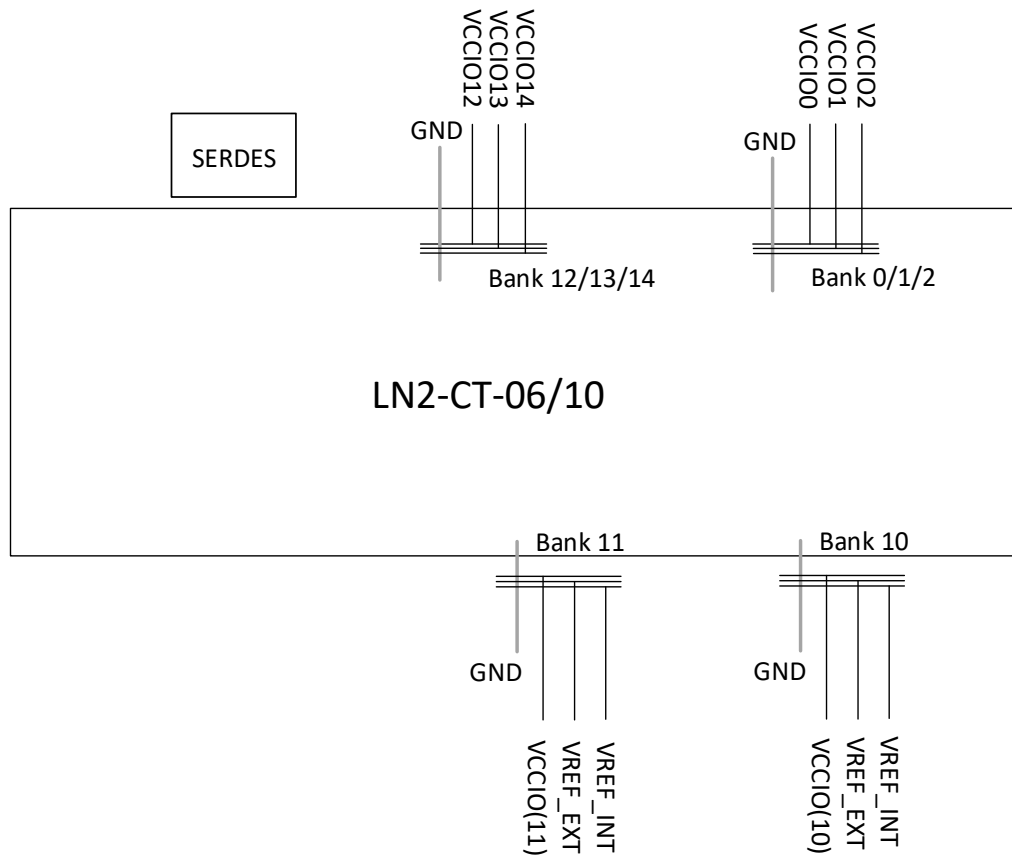
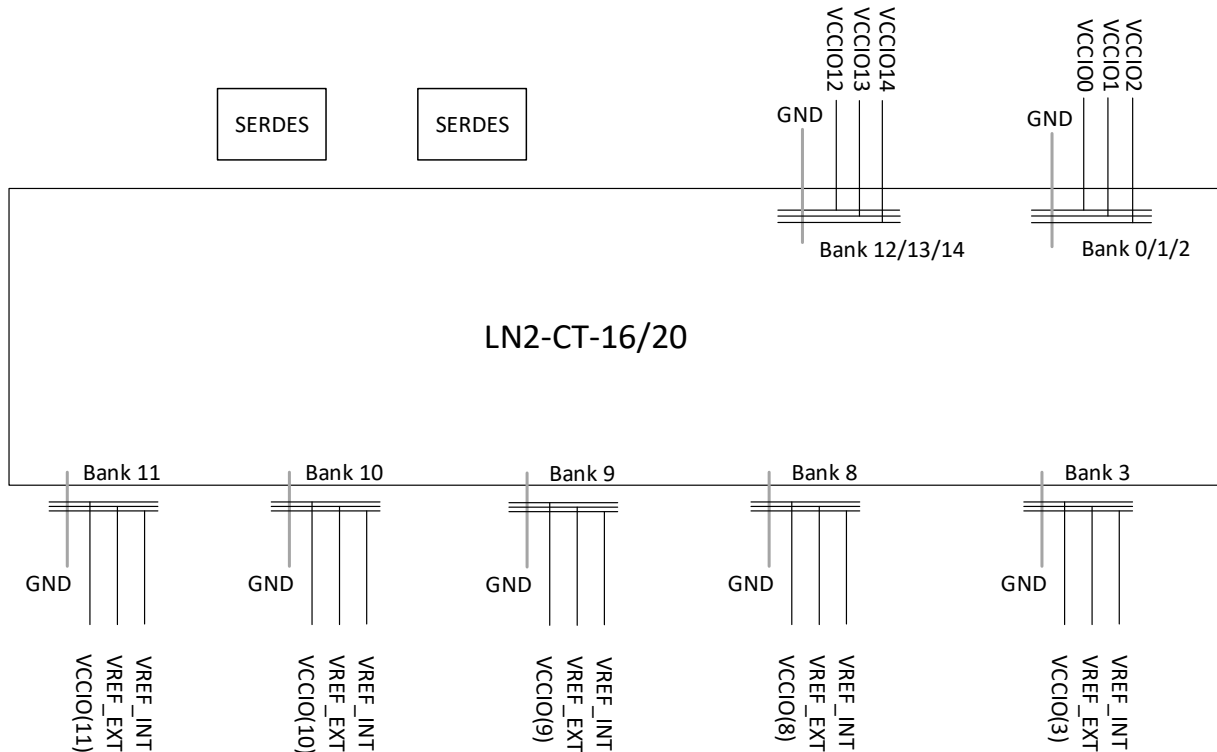

Figure 3.1. LN2-CT-06/10 sysI/O Banking
Figure 3.2. LN2-CT-16/20 sysI/O Banking
LN2-CT-16/20 devices have 11 banks and LN2-CT-06/10 devices have eight banks. Top side banks are wide range (WR) I/O supporting V_{CCIO} up to 3.3 V. There is a total of 52 I/O, distributed into three WR I/O banks. Additionally, LN2-CT-16/20 devices and LN2-CT-06/10 devices have three more WR I/O banks, amounting to a total of six WR I/O banks with 104 I/O. Bottom side banks are high performance (HP) I/O supporting V_{CCIO} up to 1.8 V. Each HP bank has 52 I/O. In addition, high performance banks support internal trainable VREF signal, VREF_INT, and external VREF signal, VREF_EXT. External VREF enters the bank through the configurable I/O. Figure 3.1 shows the location of each bank of the LN2-CT-06/10 device, six banks on the top side and two banks on the bottom side. Figure 3.2 shows the location of each bank of the LN2-CT-16/20 device, six banks on the top side and five banks on the bottom side.